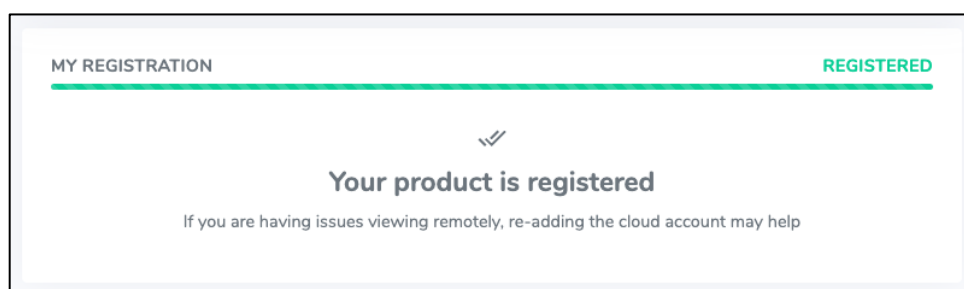

Figure 98
Figure 98 shows the machine is registered with a Cloud account.
1. **Register with a Cloud Account:** Enter cloud account credentials to log in. Once logged in, the machine will automatically register and activate all functionalities (Figure 98). This action will add a Cloud Admin Account to the *Account List*.